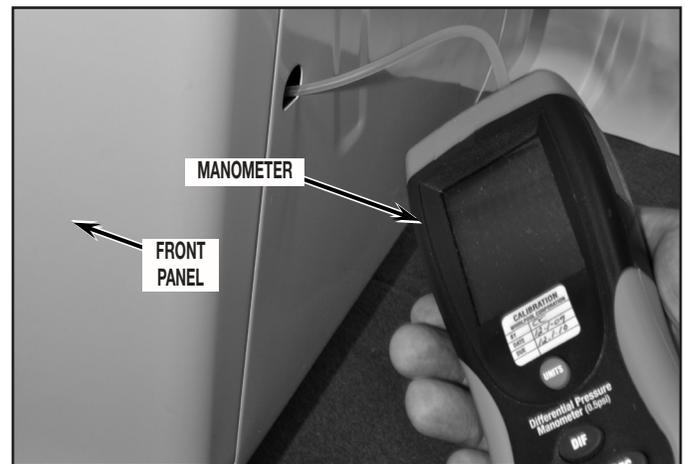

FIGURE 4
4. Turn on and zero manometer. *Figure 4*.